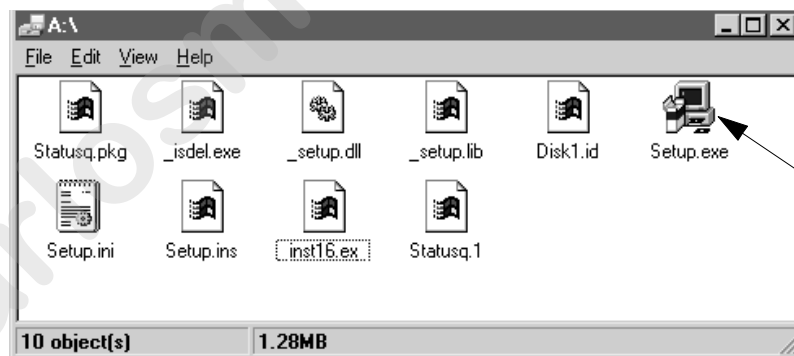

Figure 1.25. Disk 1 Contents
4. Double click on **setup.exe** to begin installation. Refer to Figure 1.25 (Windows 95 screen shown).